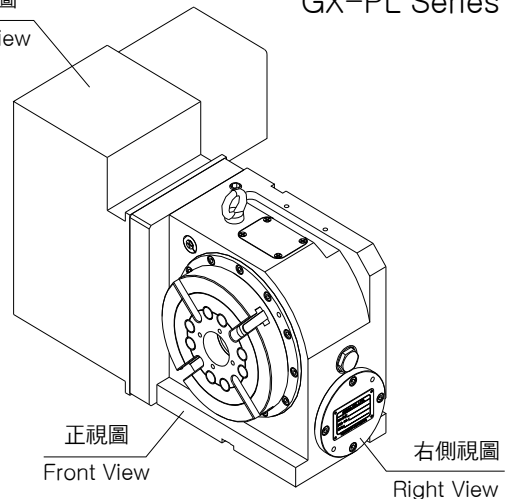

Fig 5-1
- (5).Add Lubrication. (see Fig 5-1~5-2 · Page 11-1)
- (6).Make sure that the electrical connection between the Rotary Table and the machine controller is well connected according to the attached electrical circuit diagram.
- (7).GX-P/PL/S Series : Supply compressed air for clamping. (see Fig 5-1 · Page 10-1)
- Inaccurate relative position between proximity switch and Zero Dog. Open the cover of observation window, loosen screws on Zero Dog; move Zero Dog to a proper position and test for correct action. Replace the cover of observation window. (*see Fig 5-1~5-2*)